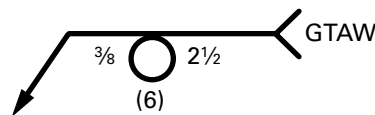

Figure 7
15. The type of weld represented by the weld symbol in *Review Question Figure 7* is a \_\_\_\_.
Topaz Publications, Inc., Figures 7 (photos), 24 (photo), 33 (photo)